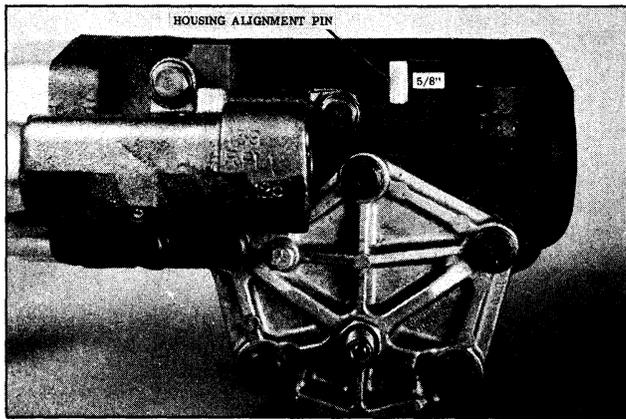

Fig. 5-70 Housing Alignment Pin
24. Make sure that housing alignment pin is extending approximately 5/8" from the housing. (See Fig. 5-70)